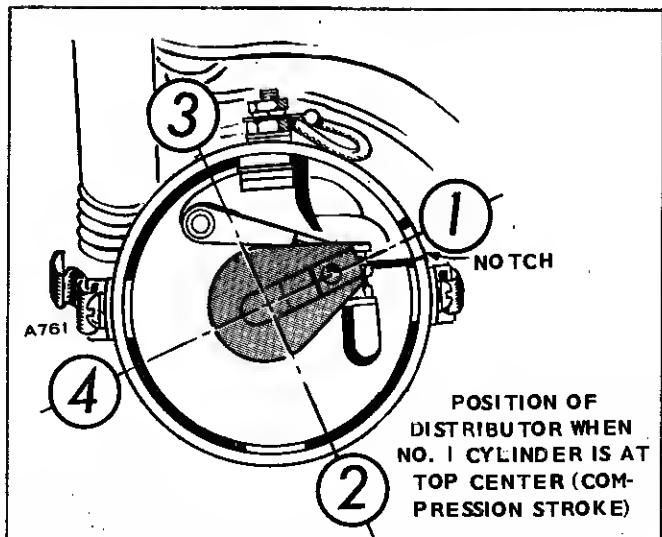

FIGURE 45. DISTRIBUTOR POSITION AT TOP CENTER
- While holding the distributor in the position shown in Fig. 45 and the rotor 1/8 turn counterclockwise from the position shown, push the distributor into its mount-